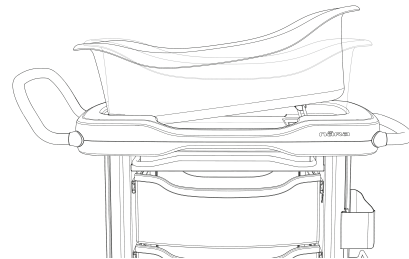

Figure 6 – Tilt the basket
3. Lift the basket slightly and lift the tilt bar from the slot (Figure 6).